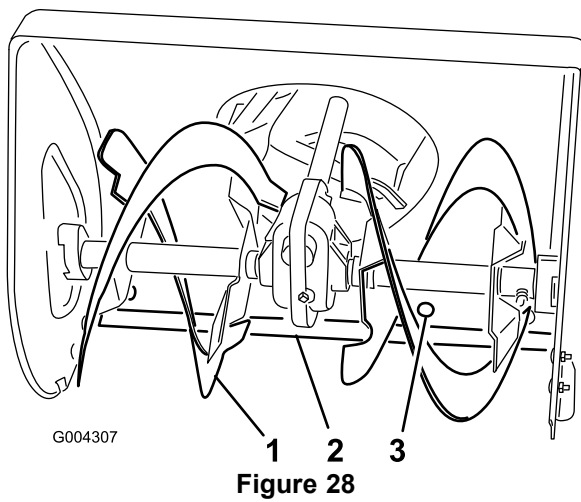

Figure 28
1. Auger side plate (2)
2. Flange nuts (4)
3. Skid (2)
4. Support the auger blades so that they are 1/8 inch (3 mm) off the ground (Figure 28).
6. To adjust the scraper, loosen the 5 mounting screws (Figure 28), level the scraper, and tighten the mounting screws.